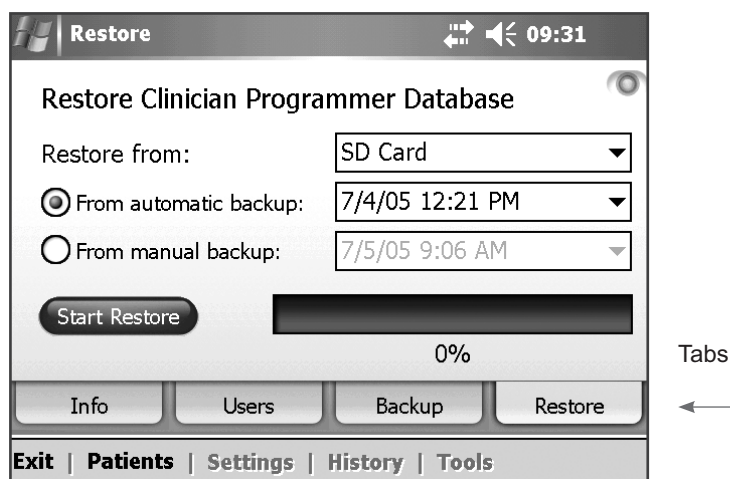

Figure 7-6: **Tools** menu, tabs.
**Note:** The **Tools** menu has four tabs: Info, Users, Backup, and Restore. Only Administrators have access to the Users, Backup, and Restore tabs. See Figure 7-6.